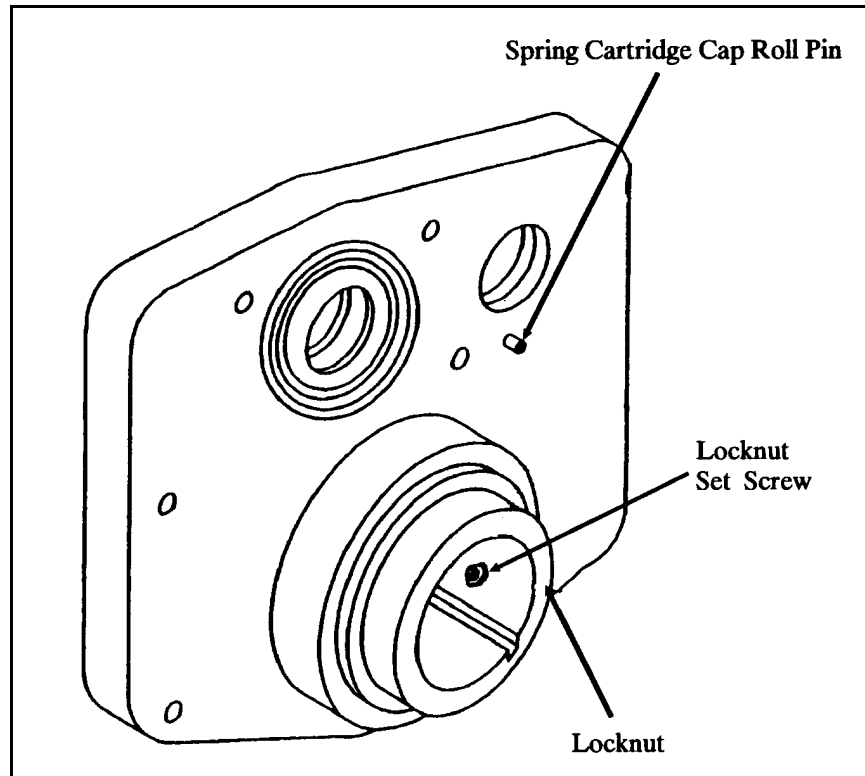

Figure 6-15 Spring Cartridge Cap Roll Pin Inspection
5. Inspect spring cartridge cap roll pin for looseness or bending. If bent or broken, replace it. If loose, use Loctite, peen hole, or if spacing allows, remove roll pin and drill hole for the next larger roll pin. Install oversized roll pin with same length as original. Refer to Figure 6-15